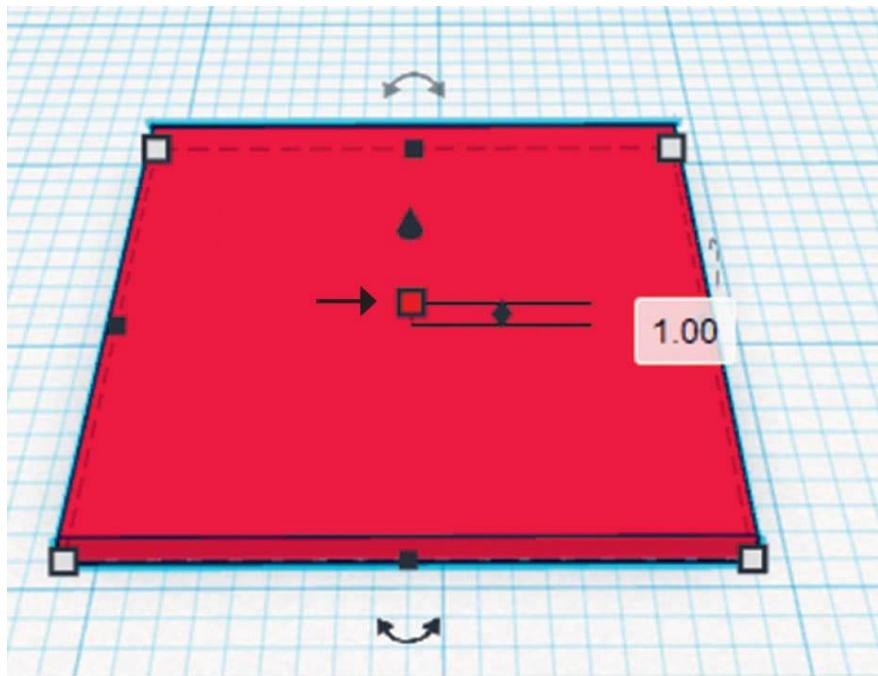

FIG. 5: Drag the white square down to make the cube 2 mm tall.
6. Next, modify the size of the cube to make it 2 mm tall/thick (a flattened cube). Click and drag down the white square to adjust height (fig. 5).